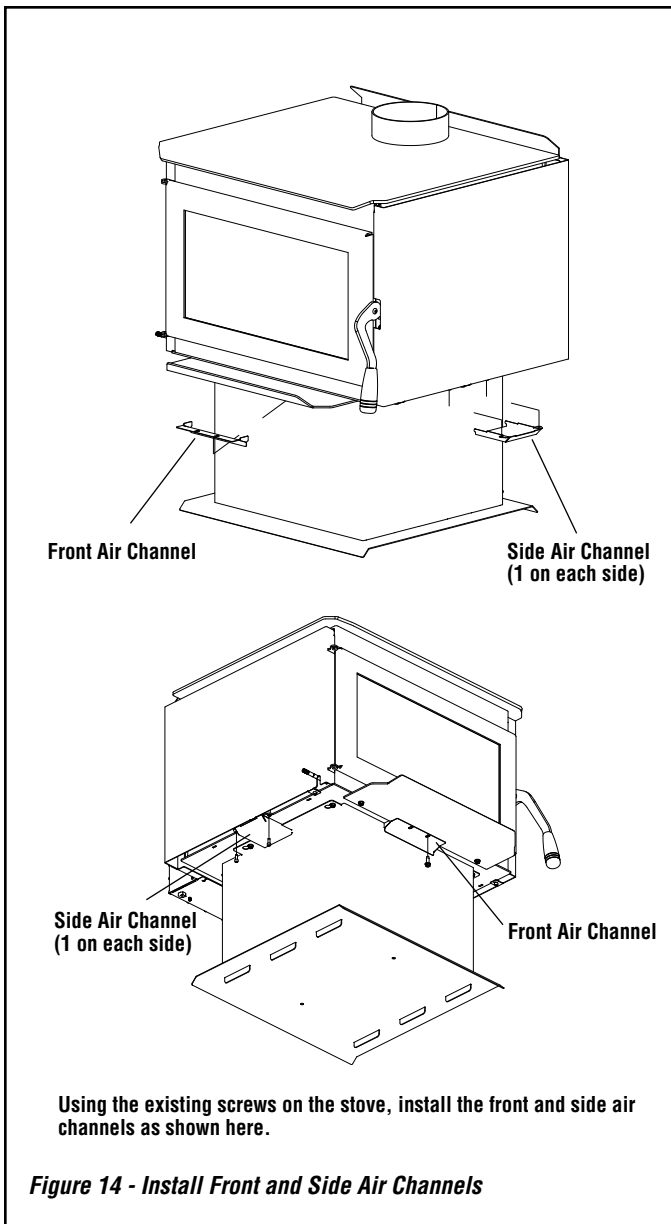

Figure 14 - Install Front and Side Air Channels
5. **Install Front and Side Air Channels** - Install the front and side air channels per the instructions in **Figure 14 on Page 13**.